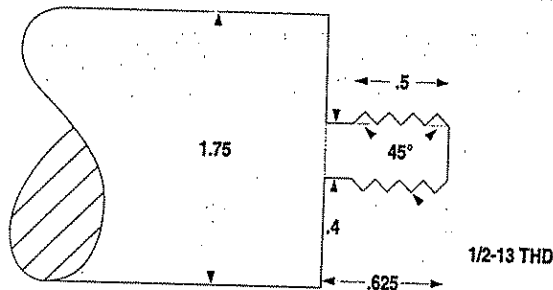

Figure 3-1.
The blueprint for the part you are going to cut is shown below in Figure 3-1.
- 4) Based on the blueprint in Figure 3-1, select your work material and tools. The tools should be an OD turning tool, an OD grooving tool and a 60° threading tool. The suggested material is 1 3/4" diameter aluminum bar.